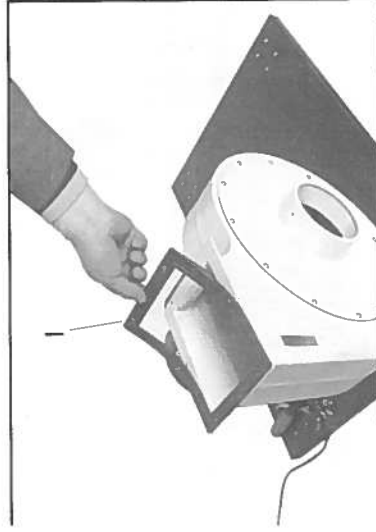
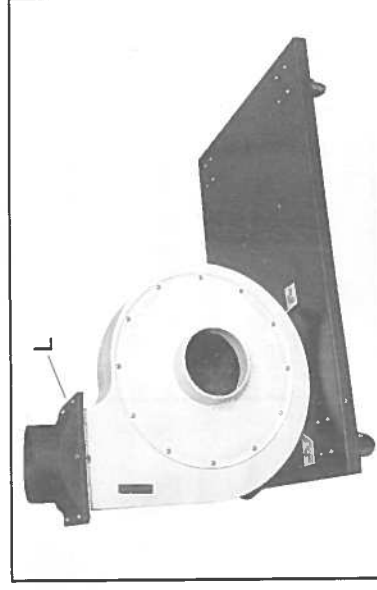

Fig. 3
Fig. 4
mount the packing (I) and the outlet adapter (L) to the collector body as shown in Fig. 3 and Fig. 4.